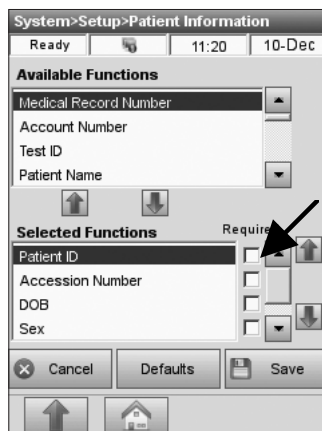

Fig. 3-17 Patient Information
3. Press **<Required>** (Fig. 3-17) to make a patient entry option a required entry.